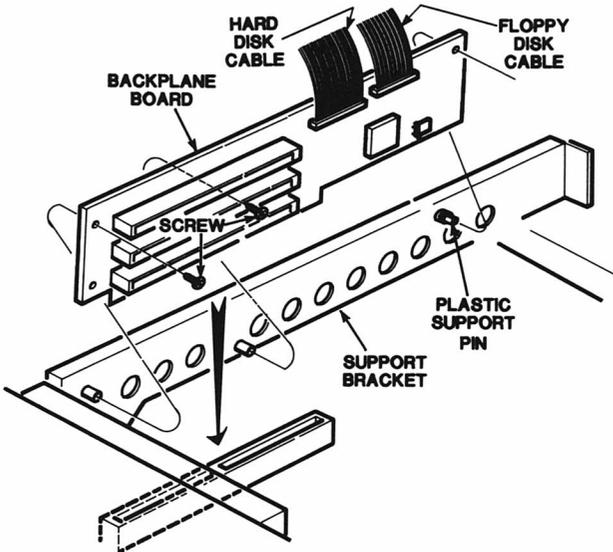

Figure 4-3. Backplane Board Removal
3. Disconnect any floppy and hard disk cables from the connectors on the backplane board, as shown in Figure 4-3. Note the orientation of the cables for reassembly.
4. Remove the two screws that secure the backplane board to the chassis support bracket, as shown in Figure 4-3.